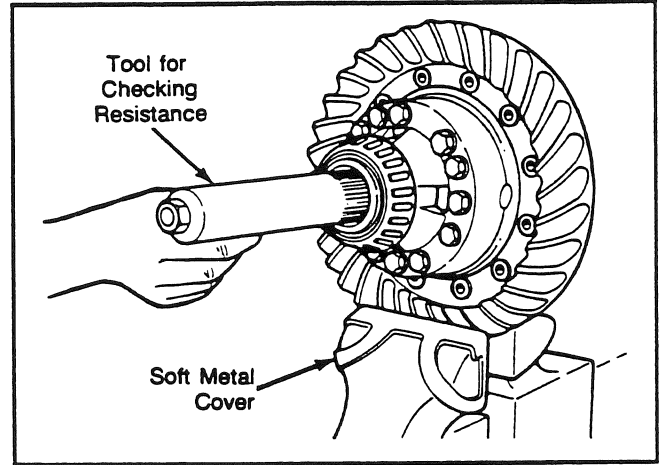

Fig. 60
2. Install the differential and ring gear assembly in a vise with soft jaws. Install the tool into the differential until the splines of the tool and one side gear engage (see Fig. 60).